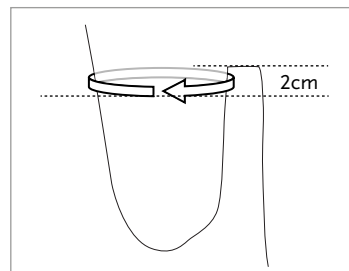

Fig. 1
1. Measure the circumference 1-2 cm below the level of the perineum (see fig.1).